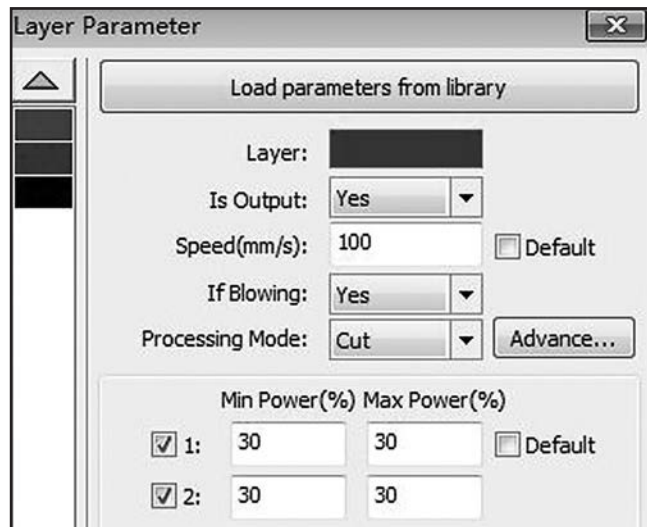

Figure 34. Layer Parameter dialog box.
2. Double-click layer to open "Layer Parameter" dialog box (see **Figure 34**).
3. Set "Is Output" to "Yes" (see **Figure 34**).
4. Set desired cutting/engraving speed in mm/s (see **Figure 34**).
6. Set "Processing Mode" to "Cut" or "Scan" as desired (see **Figure 34**).
7. Set "Min Power (%)" and "Max Power (%)" as desired (see **Figure 34**).